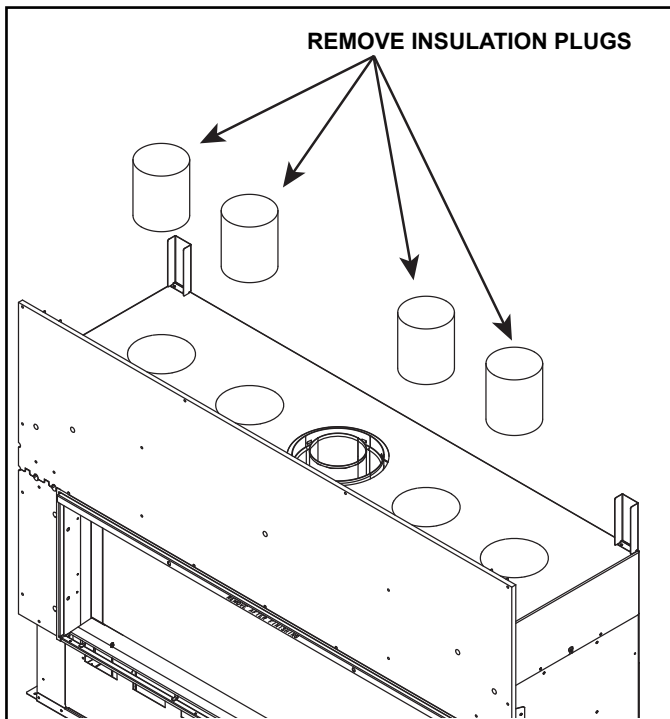

Figure 8 Remove Insulation Plugs
2. Remove the insulation plug from each knockout. Discard. See Figure 8.